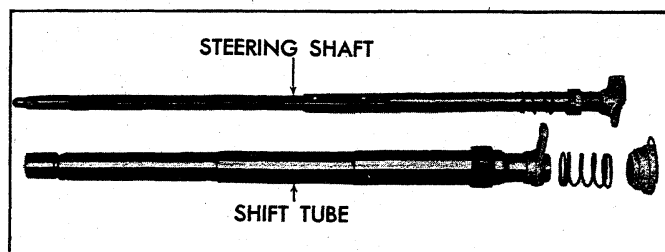

Fig. 34—Shift Tube and Steering Shaft
17. Remove bearing adapter clip (fig. 34).
5. Install shift tube spring and adapter on end of shift tube and secure with bearing adapter clip (fig. 34).